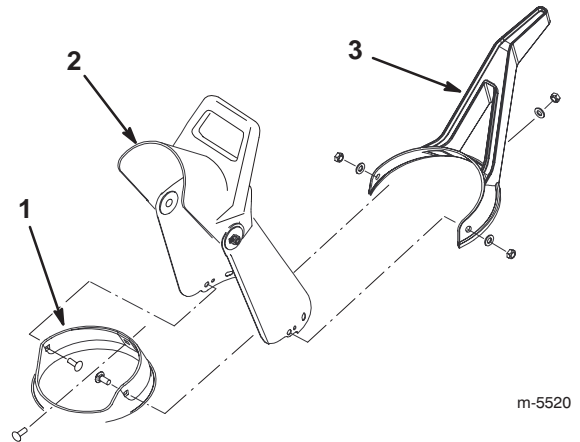

Figure 9
1. Place the discharge chute over the chute ring, and align the hole in the back of the discharge chute with the center hole in the chute ring (Fig. 9).
2. Insert a screw through the center hole of the chute ring from the inside and through the hole in the discharge chute (Fig. 9).
3. Insert the chute handle over the discharge chute, and fully insert the screw through the center hole in the chute handle (Fig. 9).